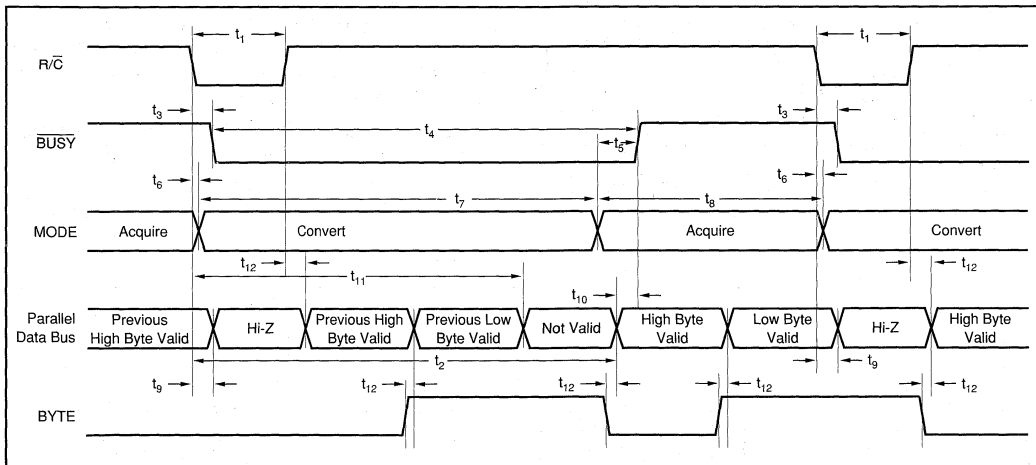

FIGURE 2. Conversion Timing with Parallel Output ($\overline{\text{CS}}$ and DATACLK tied LOW, $\overline{\text{EXT/INT}}$ tied HIGH).
The ADS7806 will begin tracking the input signal at the end of the conversion. Allowing 25 μ s between convert commands assures accurate acquisition of a new signal. Refer to Tables III and IV for a summary of \overline{CS} , R/\overline{C} , and $BUSY$ states and Figures 2 through 6 for timing diagrams.
NOTE: (1) See Figures 2 and 3 for constraints on data valid from conversion "n-1".
After conversion 'n' is completed and the output registers have been updated, $\overline{\text{BUSY}}$ (pin 24) will go HIGH. Valid data from conversion 'n' will be available on D7-D0 (pin 9-13 and 15-17). $\overline{\text{BUSY}}$ going high can be used to latch the data. Refer to Table VI and Figures 2 and 3 for timing constraints.
After conversion 'n' has been initiated, valid data from conversion 'n-1' can be read and will be valid up to $12\mu\text{s}$ after the start of conversion 'n'. Do not attempt to read data from $12\mu\text{s}$ after the start of conversion 'n' until $\overline{\text{BUSY}}$ (pin 24) goes HIGH; this may result in reading invalid data. Refer to Table VI and Figures 2 and 3 for timing constraints.